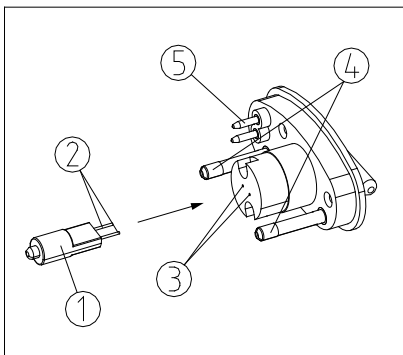

Figure 8
1. Hold the bulb ① with clean gauze or other soft cloth and insert bulb pins ② into the jack ③. Ensure the bulb is vertical. (Figure 8)
1. Connect the pin ④ and plug ⑤ with the jack ⑥ and socket ⑦. Push the assembly into the stand fully. (Figure 8 & 9)